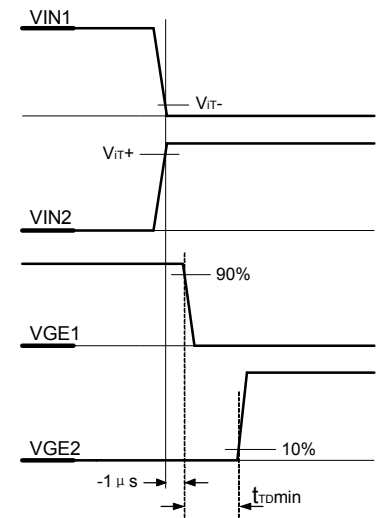

Fig 3 Interlock function
- An “INTERLOCK” circuit prevents the two IGBTs of the half bridge to switch-on at the same time, and a “dead time”(default:10us) can be adjusted by adjusting resistor value of pins J3 & K3,and J4 & K4,to suit for IGBTs with different current level and different operating frequency. Tab 1 shows the corresponding relationship between R_{TD} and dead time. The interlocking may also be inhibit by solder bridging between pins J5 and K5 to obtain two independent drivers(see Fig.3).